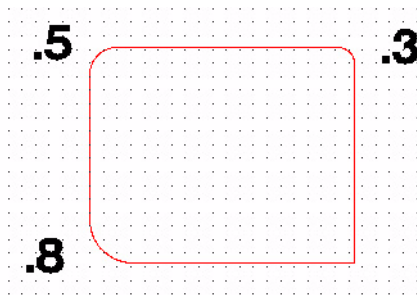

Figure 166
- 4 Click the **Round Corner** tool on the corner you want to round. See figure 166.